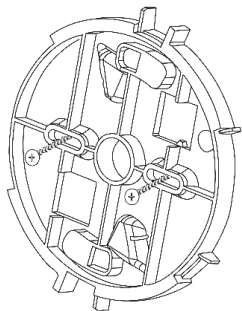

Figure 3
- Using the mounting holes as a template secure the mounting bracket to the mounting surface (see Figure 3).